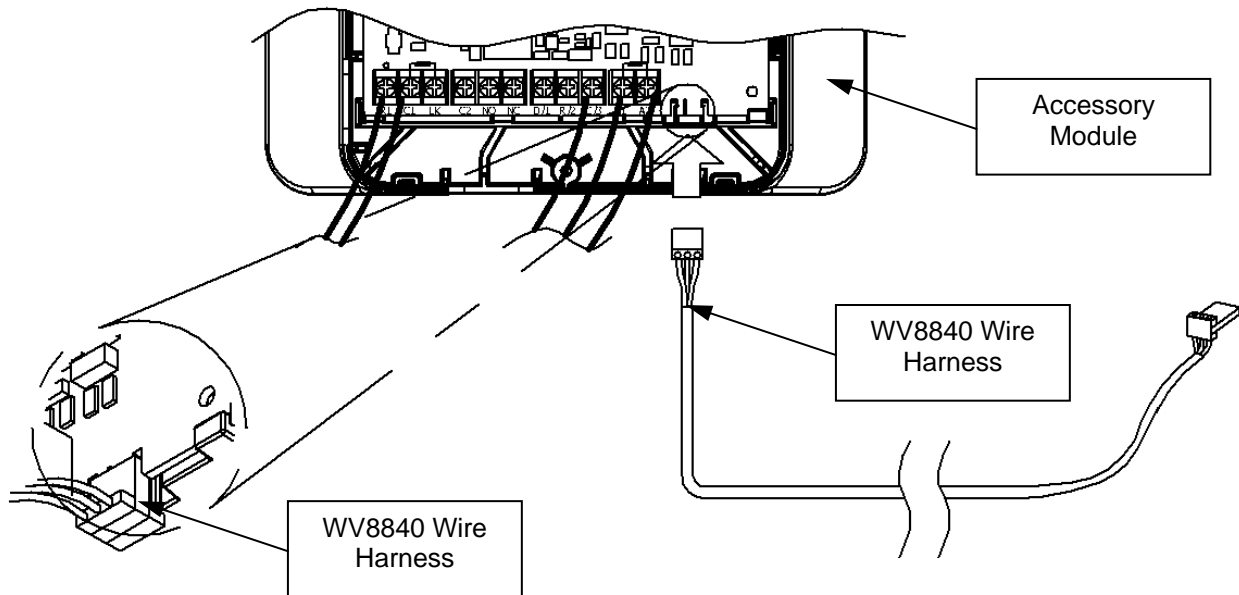

Figure 25
Step 25: Insert one end of the WV8840 wire harness over the edge of the Accessory Module circuit board. This connection point is on the bottom right hand side of the circuit board, and it is shown in Figure 25. Proceed to Step 27 when finished.